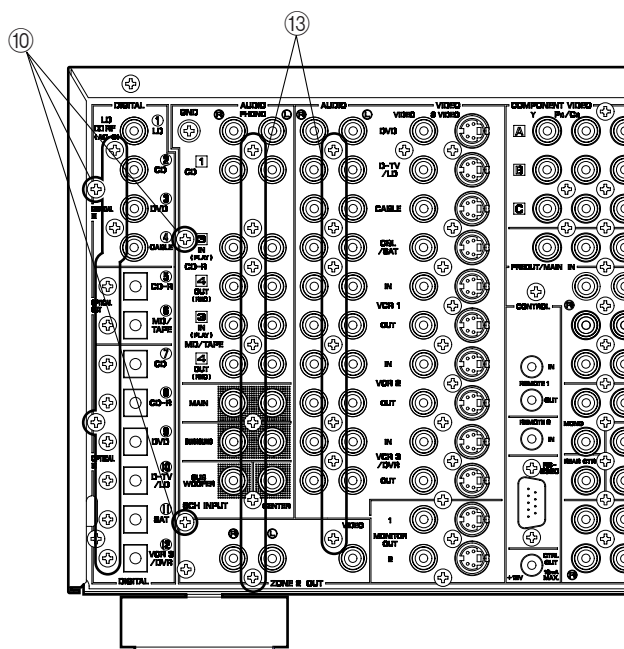

Fig. 3
- Remove 14 screws (⑩). (Fig. 3)
- ⑩のネジ14本を外します。(Fig. 3)
5. Removal of FUNCTION, VIDEO (5) and SUB TRANS (7) P.C.B.s
- Remove 14 screws (13). (Fig. 3)
5. FUNCTION、VIDEO (5)、SUB TRANS (7) P.C.B.の外し方
- 13のネジ14本を外します。(Fig. 3)